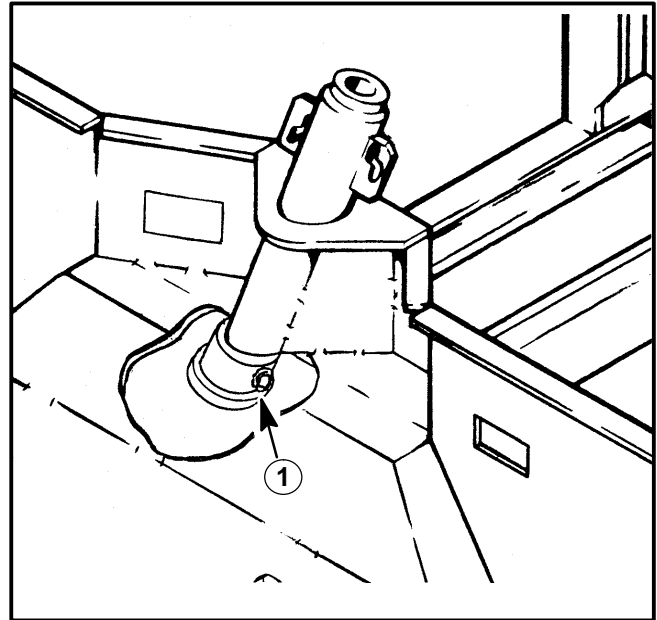

FIGURE 21
3. Lubricate fork tube lubrication fitting. See Figure 21 for location of fork tube fitting.